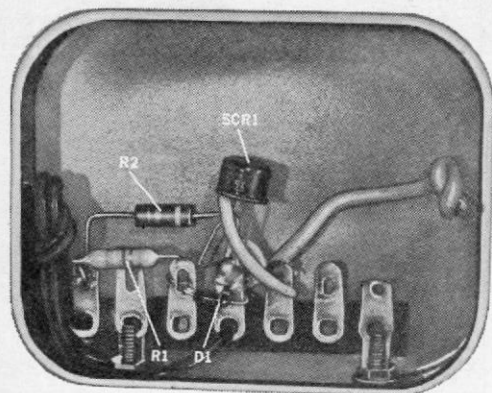

Fig. 3. The "Sound Sync'er" can be assembled on a terminal strip and mounted inside a small metal or plastic box. Use grommets to protect the cables.
**Construction and Use.** Layout is not critical, and you can save a lot of time by mounting the parts on a terminal strip as shown in Fig. 3. A small plastic or metal box can be used to house the parts. However, if you use a metal box, be sure to line the inside with insulating material to prevent accidental short circuits between the box and the strobe.